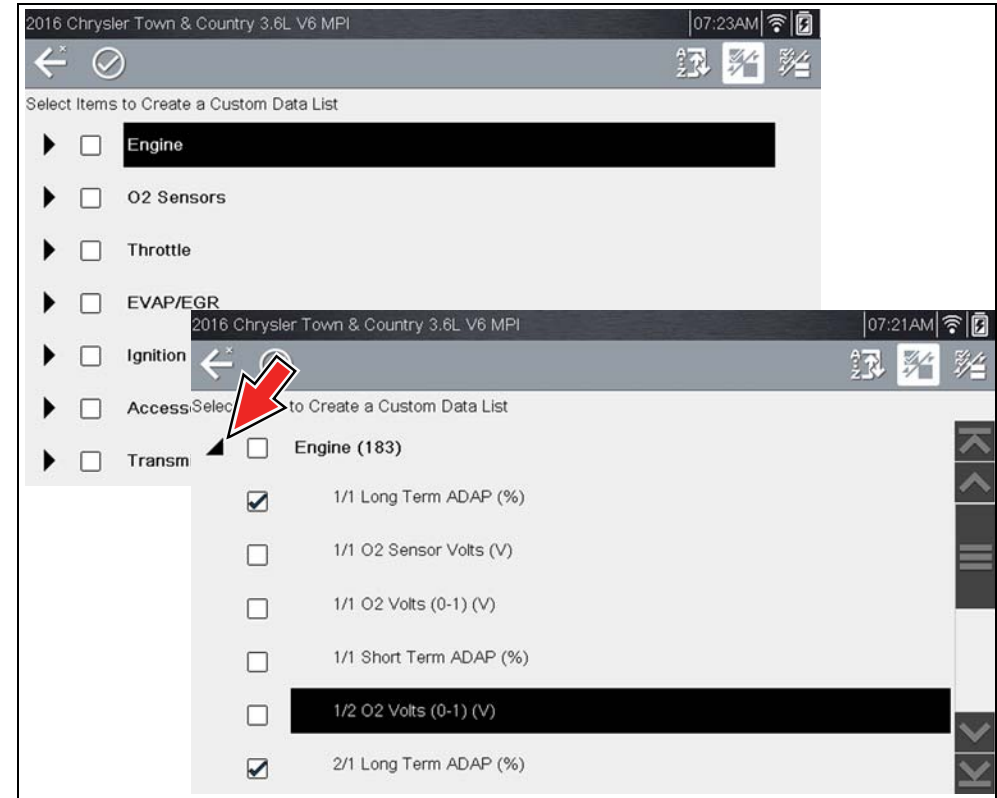

Figure 5-17
2. The data selection screen displays (Figure 5-17). Each list item is expandable, by selecting it's Expand icon (Figure 5-17). You can expand any item from the list and select which PIDs you want to include, and then collapse the list and choose another if desired. The check marks to the left of the parameter description indicate which parameters are selected for display.